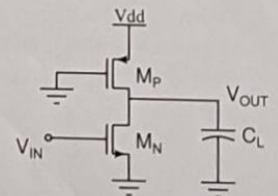

Figure 1
4. Consider the circuit shown in Fig. 1.